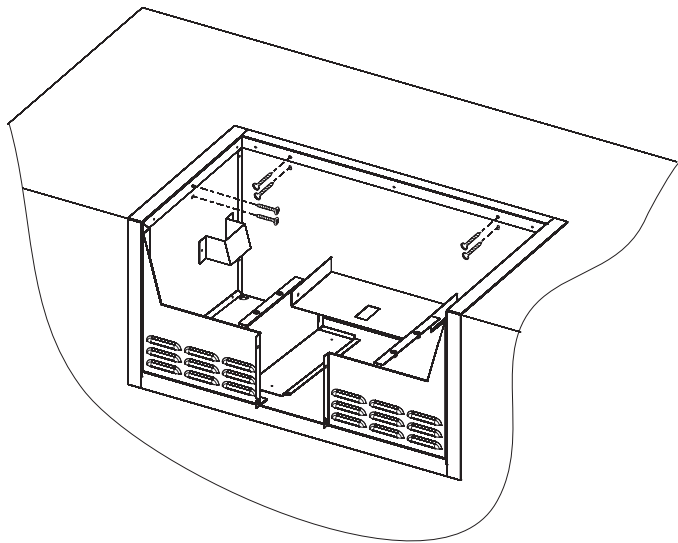

Figure 2
2. Secure the BHA surround to the enclosure using eight 8 x 3/4" Hex Head Screw screws. See Figure 2.